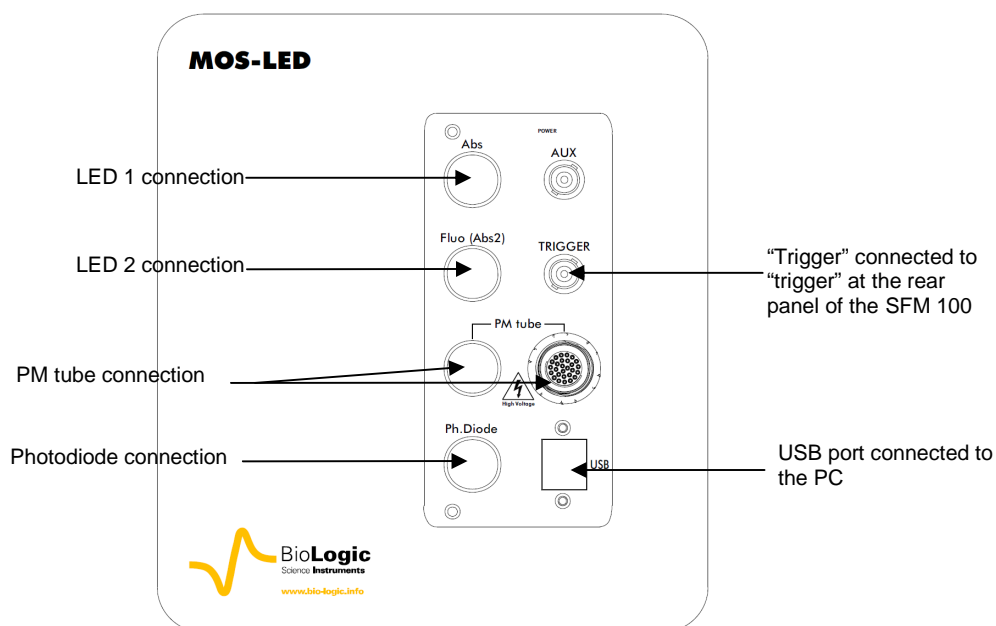

Figure 1: MOS- LED front panel connections
- MOS LED Front panel (cf figure 1 below):